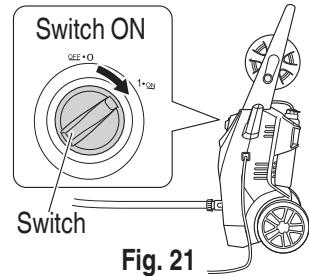

Fig. 21
2. Set the switch to the "ON" position (Fig. 21)